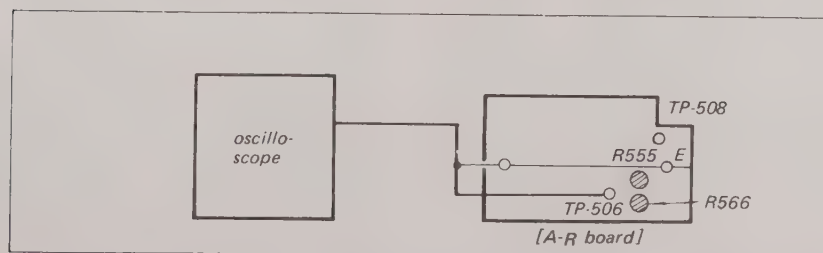

Fig 8-11. 688 kHz color level adjustment test setup
1. Connect the scope to TP-506 on the A-R board. See Fig. 8-11.